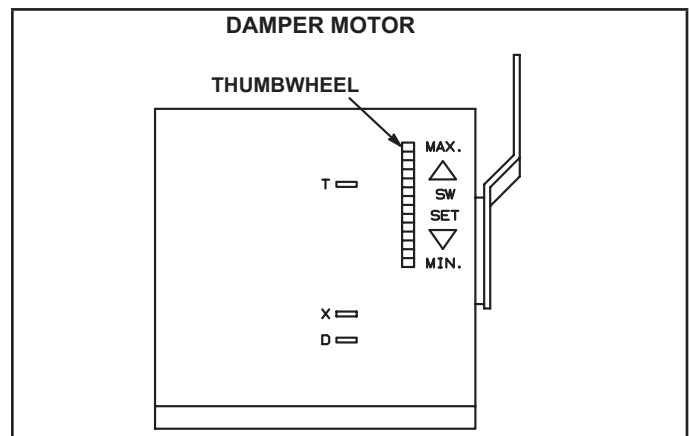

FIGURE 35
- 7 - If fresh air percentage is less than desired, adjust thumbwheel higher. If fresh air percentage is more than desired, adjust thumbwheel lower. Repeat steps until calculation reads desired fresh air percentage. See figure 35.
Set damper minimum position in the same manner as economizer minimum position. Adjust motorized damper position using the thumbwheel on the damper motor. See figure 35. Manual damper fresh air intake percentage can be determined in the same manner.